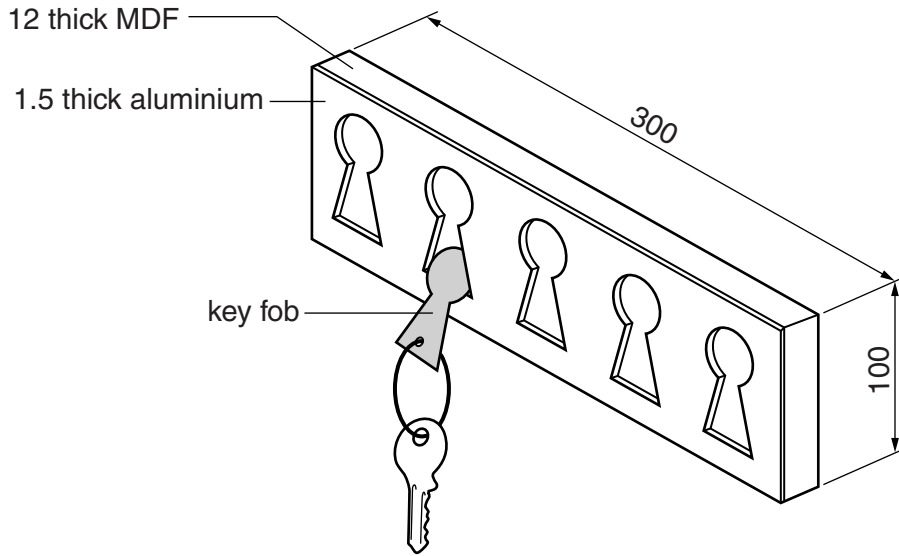

Fig. 16
- 13 Fig. 16 shows a wall-mounted key rack. The front of the key rack and the key fob are made from 1.5 thick aluminium sheet. The back is made from 12 thick MDF.